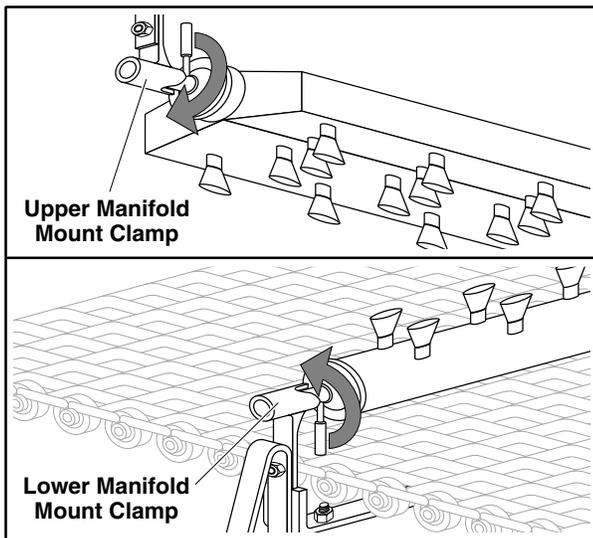

Figure 15: Scrapper Spray Manifold Mount Clamp
- a. Rotate the Mounting Clamp handle counterclockwise to release the Scrapper Spray Manifold (Figure 15).